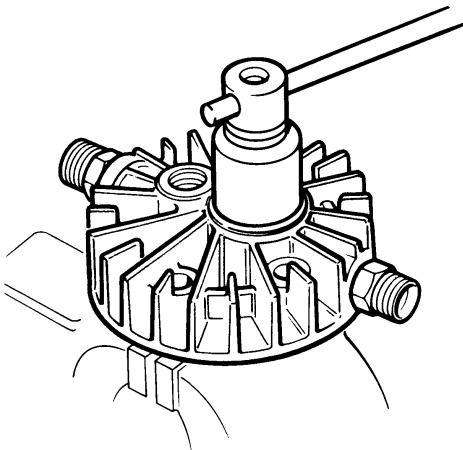

Fig. 18 Removing the screw-in pressure plug
- Unscrew stud (2) approx. 5 turns.
- Unscrew screw-in pressure plug (3), refer to Fig. 18. Take out the pressure valve parts.